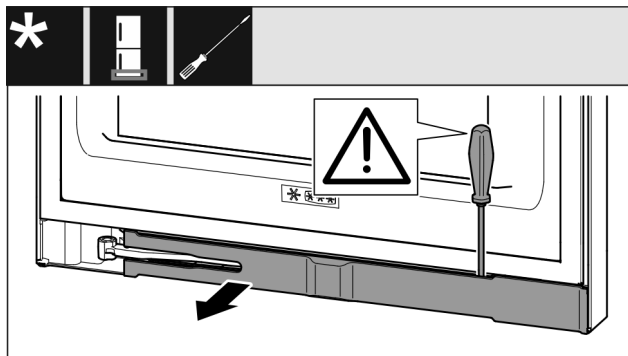

Fig. 11
- Unlatch the panel with a slotted screwdriver and swivel it to one side Fig. 11 ().